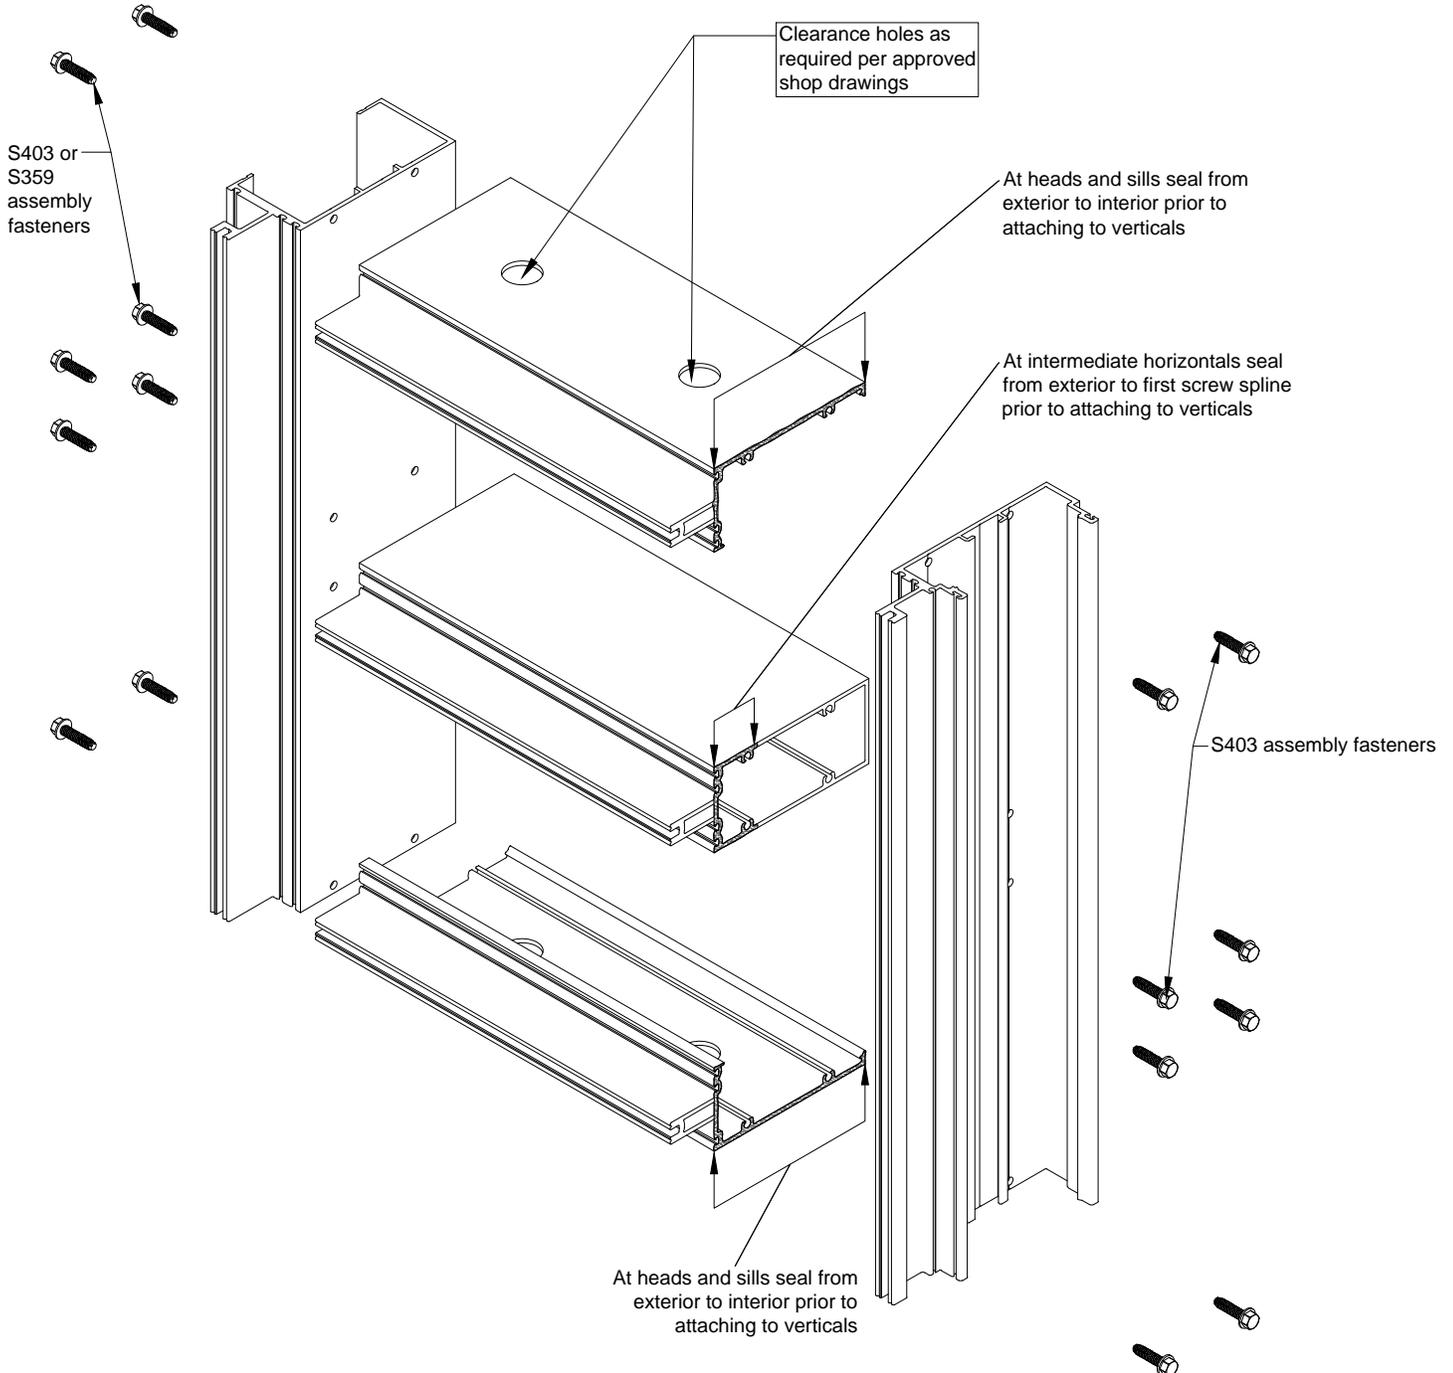

Fig. 39.1
- B. De-bur and clean the ends of all horizontals with IPA to ensure a tight joint with good sealant adhesion. Seal ends of horizontal prior to attaching to the verticals. See Fig. 39.1 for sealant locations.